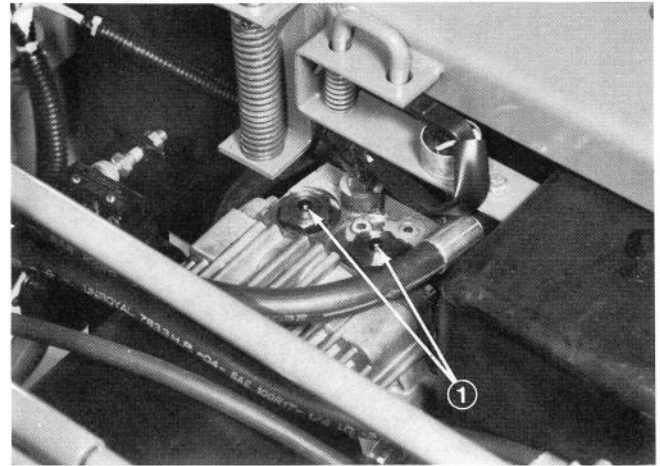
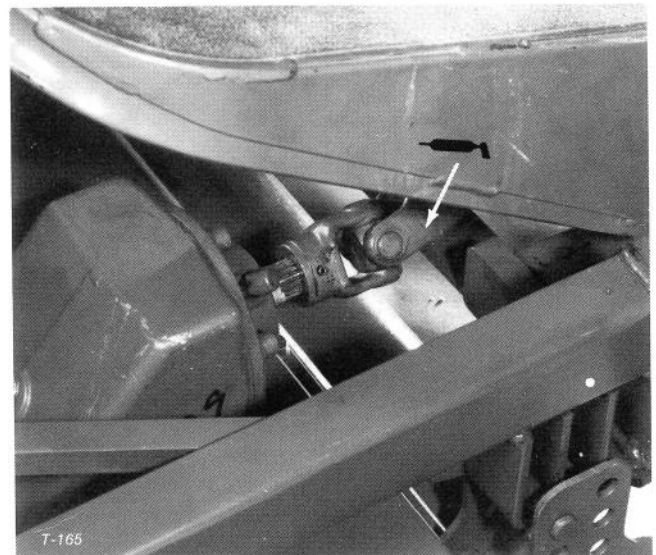

Figure 15
Figure 16
4. Depress and hold the pins located in the center of the two (2) check valve assemblies in the top of the transmission (Fig. 15) while pushing or towing the machine.
Apply a liberal coating of grease to the check valve pins once each year (Fig. 15). Also grease the bearings in the Dana axle every 500 hours, or yearly, whichever comes first (not shown). The traction unit has bearings and bushings that must be lubricated, and these lubrication points are: PTO shaft (Fig. 16); lift arm pivot bushings (Fig. 17); intermediate steering arm pivot bearings (Fig. 18); brake pivot bushings (Fig. 18); PTO shaft engaging lever bearings (Fig. 19); rear wheel spindle bushings (Fig. 21); steering plate bushings (Fig. 20); axle pin bushing (Fig. 20); and PTO idler assembly bearings (Fig. 22). Also apply grease to both brake cables at the drive wheel and brake pedal ends (Fig. 18).